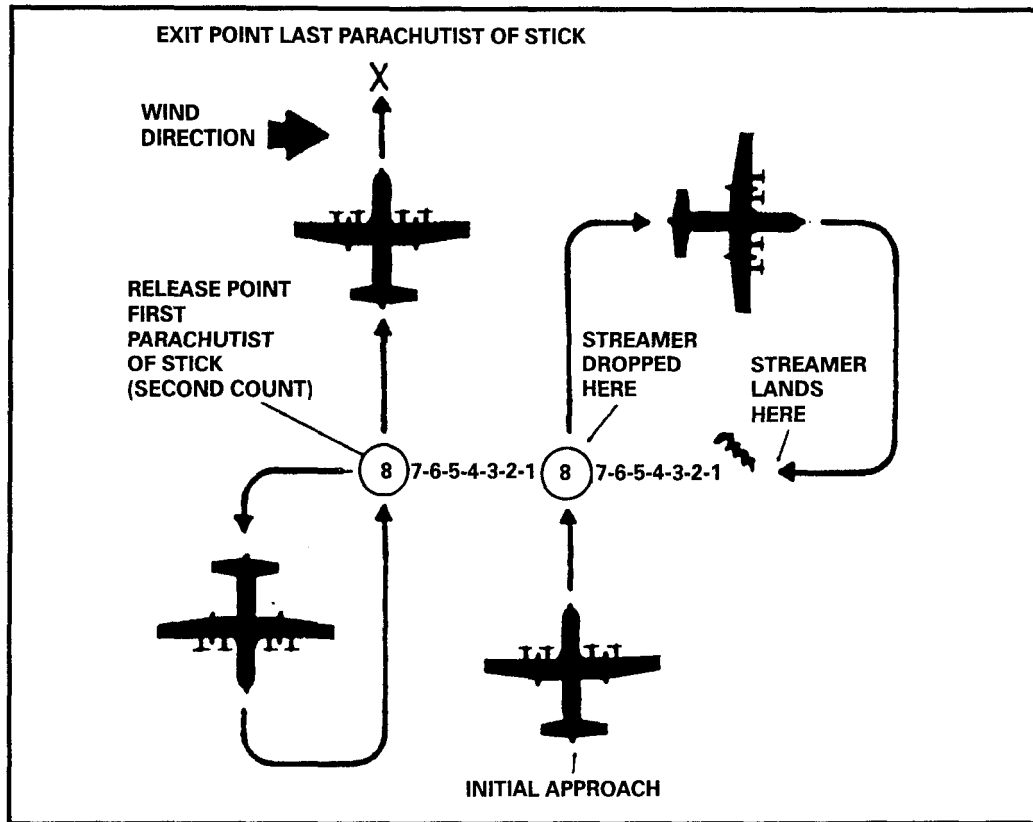

Figure 21-1. Determination of the release point by WSVC.
a. **Wind Streamer Vector Count.** The WSVC method (Figure 21-1, page 21-4) is used when the release point is determined from the air. It is normally jumpmaster-executed and does not require markings to be placed on the DZ.